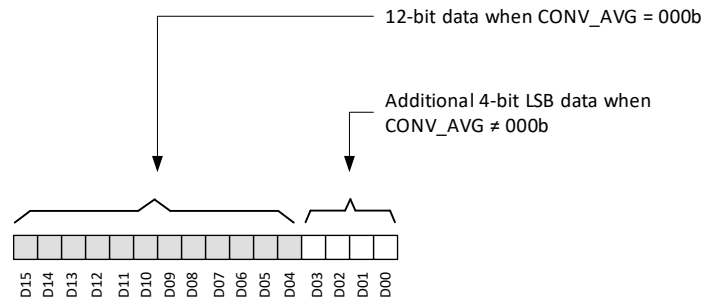

Figure 7-5. Magnetic Sensor Data Definition
The X, Y, and Z magnetic sensor data are stored in the X_CH_RESULT, Y_CH_RESULT, and Z_CH_RESULT registers, respectively. The 12-bit ADC output is stored in 16-bit result registers in 2's complement format as shown in Figure 7-5. With fastest conversion (CONV_AVG = 000b), the ADC output loads the 12 MSB bits of the 16-bit result register along with 4 LSB bits as zeros. With CONV_AVG ≠ 000b, all the 16 bits are used to store the results. With DATA_TYPE = 00b, the 16-bit magnetic sensor data can be accessed through regular 32-bit SPI read. Use Equation 1 to calculate the measured magnetic field.
- D_i is the data bit as shown in Figure 7-5.